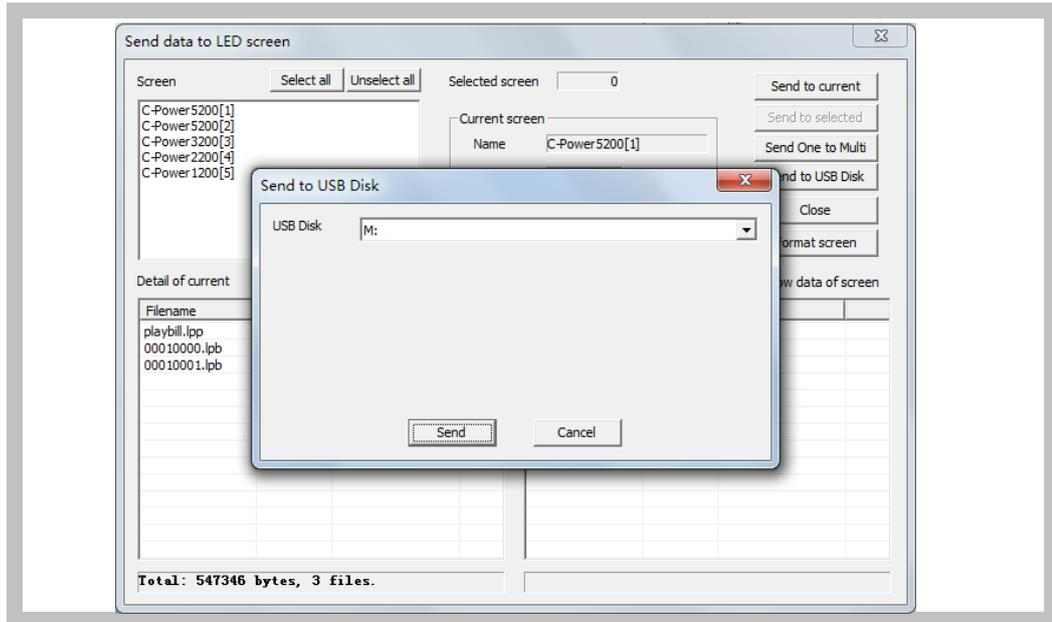

Figure38 Sending program data to USB flash disk
3) When transferring program data via USB flash disk (the controller should be a USB version), the USB flash disk can plug into the computer's USB interface, and then click "Send to USB disk" button, as Figure38 shown. Select the USB disk's driver, then click send button. The files include control files and program data files, as **Error! Reference source not found.**